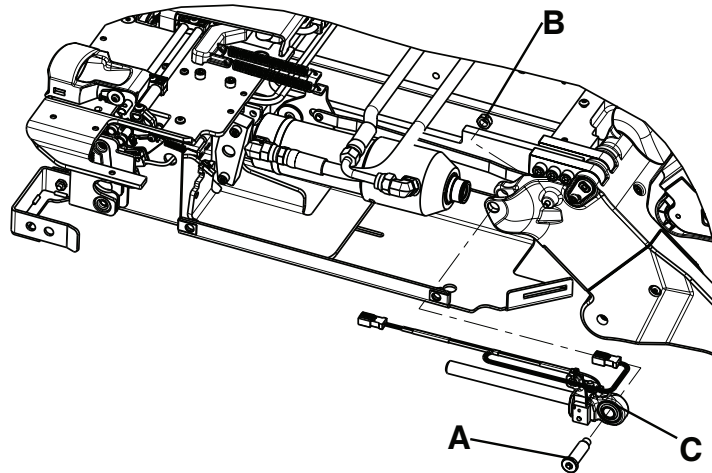
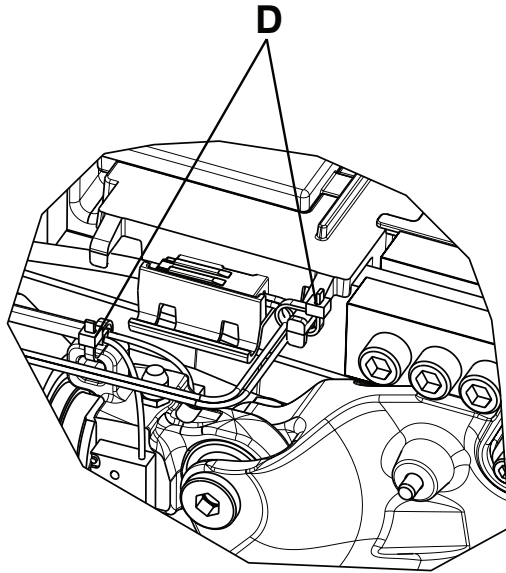

Figure 32 – Hydraulic cylinder assembly
Figure 33 – Cable ties locations
4. Using a 1/4" hex wrench and a 1/2" combination wrench, remove the end cap cylinder pin (A) and nut (B) (Figure 32). Save the end cap cylinder pin and nut.
5. Using diagonal pliers, cut the cable ties (D) (Figure 33) that secure the hydraulic cylinder rod end assembly (C) cable to the plastic cover (Figure 32).
6. Lift the cylinder while you remove the hydraulic cylinder rod end assembly (C) (Figure 32). Save the hydraulic cylinder rod end assembly.